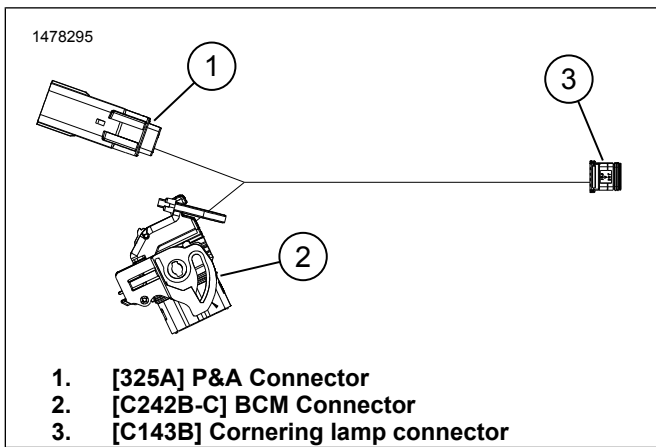

Figure 6. LED Adaptive Headlamp Harness
7. See Figure 6. Install LED adaptive headlamp harness:
8. Route harness and headlamp connector (3) along with the main harness on the inside of the left frame rail toward the headlamp.
9. See Figure 6. Connect cornering lamp connector (3).
1. See Figure 6. Remove connector (3). See Electrical Diagnostic Manual.